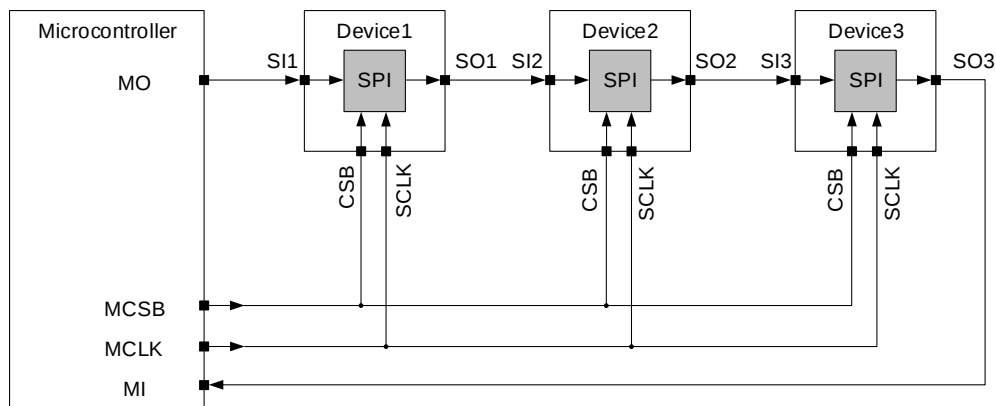

Figure 19. SPI Daisy Chain
The device is designed to support daisy-chain operation with other devices that utilize the same SPI protocol, as demonstrated in Figure 19. In this setup, the controller's output (MO) is connected to the serial input (SI) of the first target device. The serial output (SO) of this device is then connected to the SI of the next target, forming a chain. The SO of the last target in the chain is linked to the controller's input (MI), thereby completing the SPI communication loop.